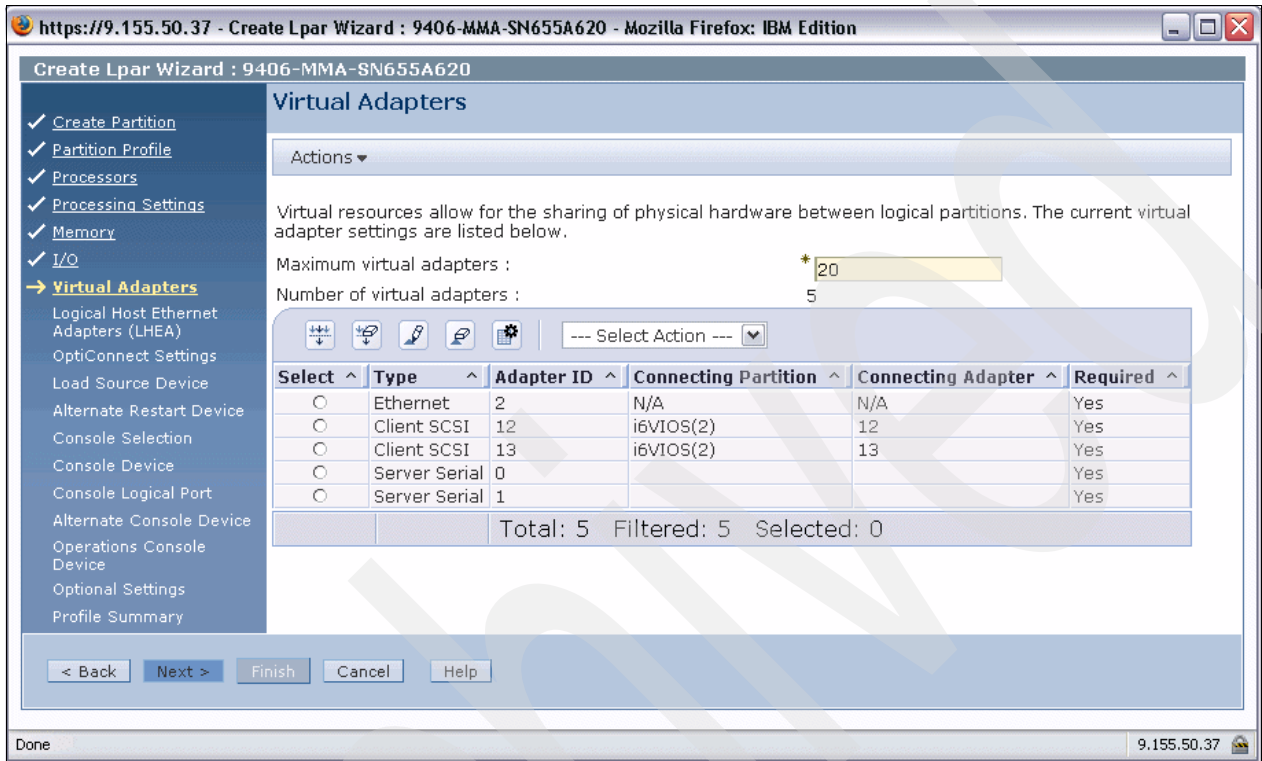

Figure 6-32 Create LPAR Virtual Adapters dialog
12. Now we have created one virtual SCSI client adapter for connecting to the virtual SCSI server adapter in our VIOS partition used for the virtualized IBM System Storage DS4800 SCSI disk devices. We repeat step 11 above to create another virtual SCSI client adapter to connect to the VIOS virtual SCSI server adapter used for virtualizing the DVD-RAM. Figure 6-32 shows our virtual adapter configuration with the one Ethernet adapter and the two SCSI client adapters that we just created. Select **Next** to proceed.